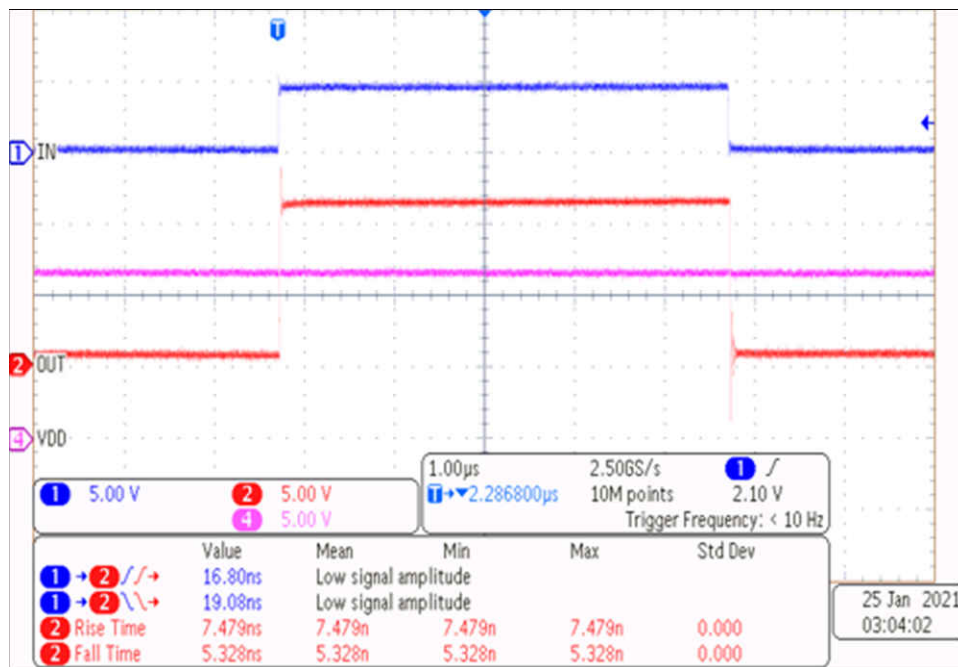

Figure 5-1. Example Input and Output Waveforms (Green and Magenta are PWM Inputs, Yellow and Blue are Driver Outputs)
- a. Stable pulse output on channel-1 and channel-2 of the oscilloscope, refer to Figure 5-1